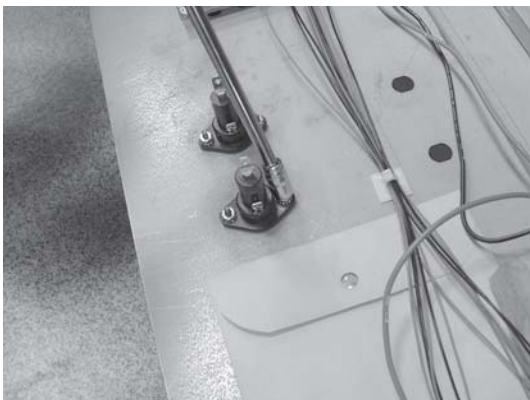

Figure 3
3. Remove the nuts securing the fuse holder and pull the fuse holder from the unit. Figure 3.